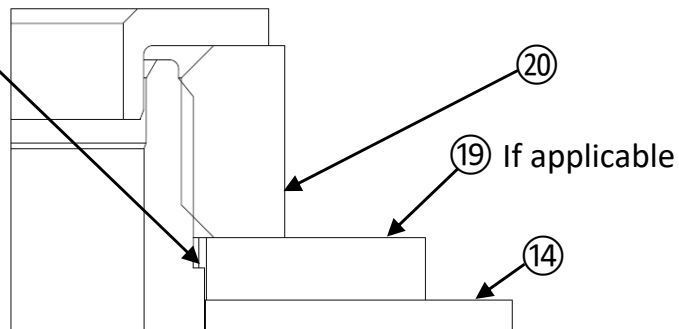

Figure 20
If your pulley features a washer ⑲, make sure the alignment of the hexagon shape of the cap ⑭ and washer ⑲ are fully engaged on the shaft hexagon shape before applying torque to the nut ⑳ (see figure 20).